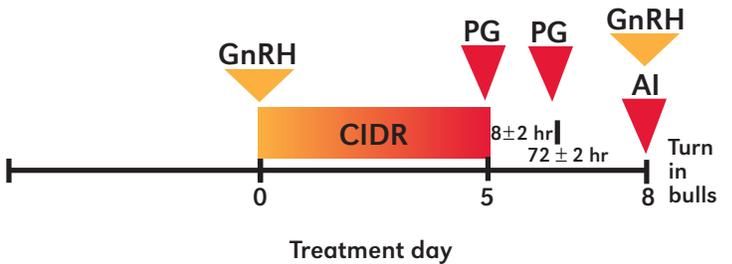

Figure 17. Five-Day CO-Synch + CIDR TAI.
**Five-day CO-Synch + CIDR TAI** (Figure 17). This protocol is one of the most complex with four injections and a CIDR as part of the protocol. On day 0, all cows receive a CIDR and an injection of GnRH. On day 5, the CIDR is removed and all females receive an injection of prostaglandin. Between 6 and 10 hours following the first prostaglandin injection, a second injection of prostaglandin is administered to all cows. Between 70 and 74 hours (about 3 days) following the initial prostaglandin injection, all cows are given an injection of GnRH and mass-inseminated (day 8 of the protocol).